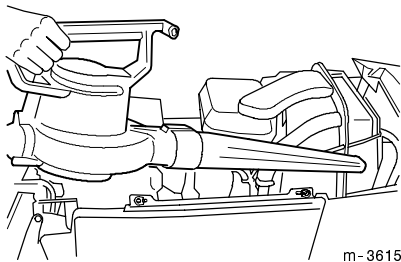

Figure 8
**IMPORTANT: It is preferable to blow dirt out (Fig. 8), rather than washing it out. If water is used, keep it away from electrical items.**